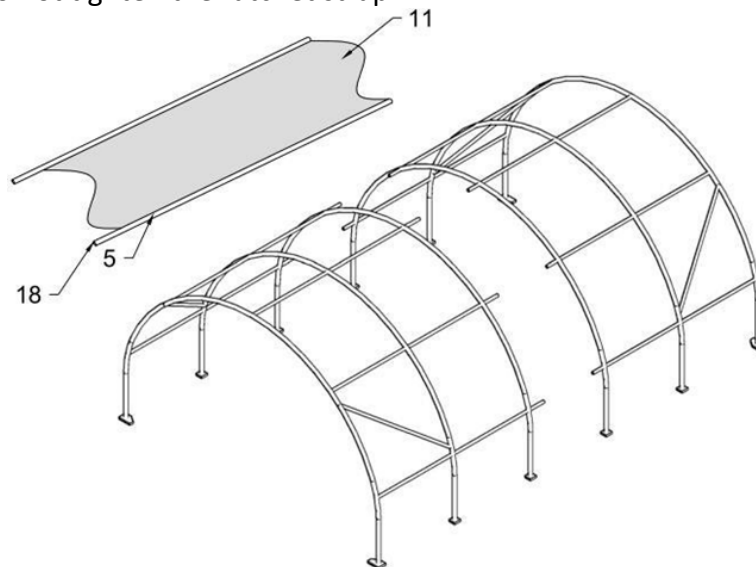

Figure 11
2. Insert the lower tension tubes (component code 5) into the pockets, as shown in *Figure 11*, make small slits in the pocket, and use the ratchet strap (component code 17) to attach the tube to the cover.
- c. Fasten the rope at the bottom edge. Plug the ends of the tension tubes with plastic plugs (component code 18), as shown in *Figure 11*.